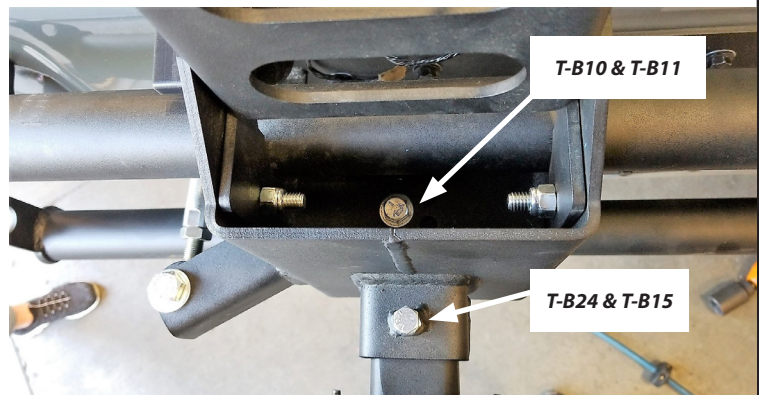

Figure 25
32. Insert one 3/8 bolt (T-B10) down through the newly marked hole and tighten with nut (T-B11). See figure 25.